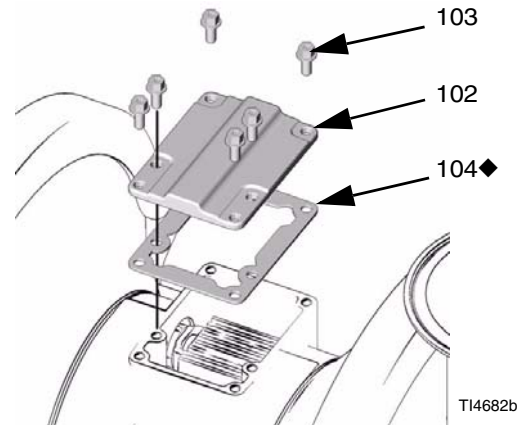

FIG. 12
9. Align the valve gasket (104) and cover (102) with the six holes in the center housing (101). Secure with six screws (103), using a Torx (T20) screwdriver or 7 mm (9/32 in.) socket wrench. Torque to 50-60 in-lb (5.7-6.8 N•m). See FIG. 12.